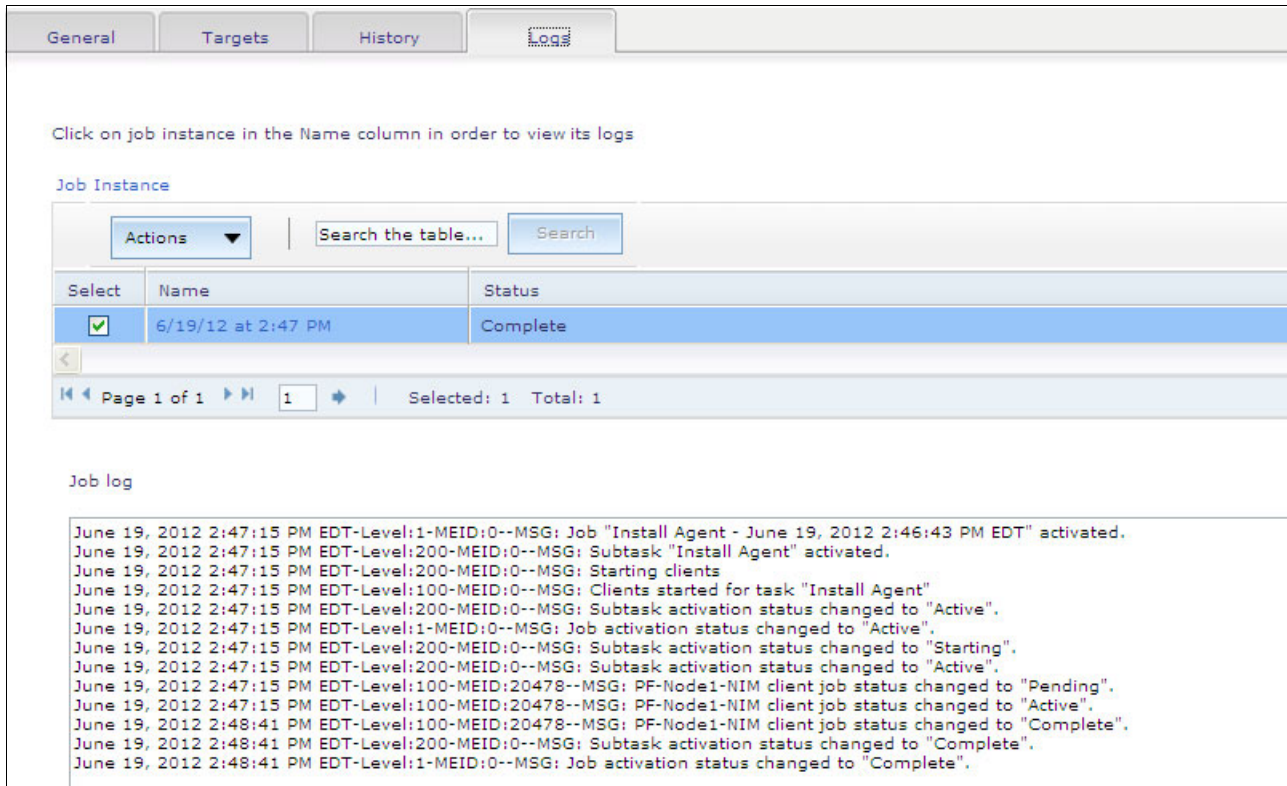

Figure 10-55 Checking the logs
9. Check the logs, as shown in Figure 10-55.